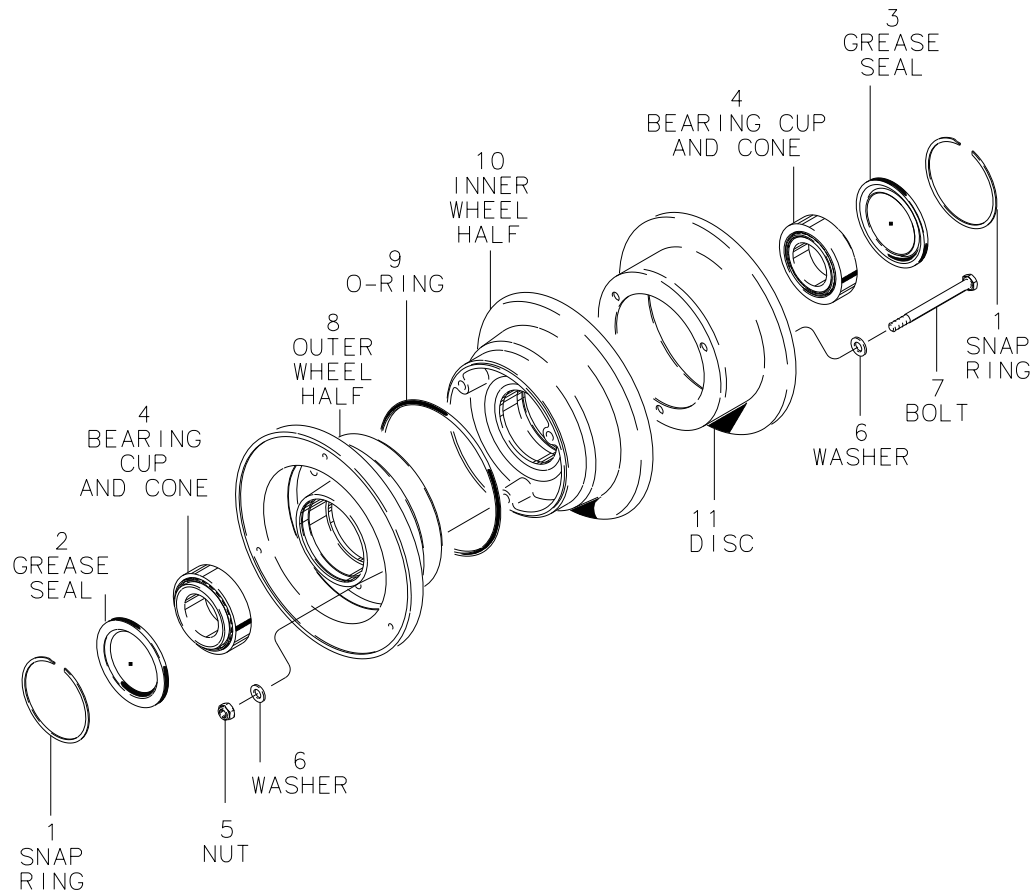

Figure 4 - Typical Main Wheel Assembly
Wheels are made from either aluminum castings, magnesium castings, or aluminum forgings. The wheel is of the divided type, incorporating inner wheel half (10) and outer wheel half (8), Ref. Figure 4, which are fastened together with tie bolts (7), washers (6), and nuts (5). The brake disc (11) is attached to the wheel by the tie bolts. In a few designs, the brake disc bolts are threaded directly into inserts pressed into the back of the inboard wheel half. Wheels fall into two categories, tubeless and tube type. An o-ring (9) fitted between the two wheel halves provides the air seal for wheels designed to operate with tubeless tires. The wheel rotates on two tapered roller bearings (4) which seat in bearing cups in the hubs. Grease seals (2) and (3) provide protection and lubricant retention for the bearings. All new product shipped will have the bearings packed with the appropriate grease (refer to Section 300 Off-Aircraft Maintenance, paragraph 3.A. Bearing Grease). Hubcaps, when used, are secured to the outboard wheel half by a snap ring (1) or three attachment screws. Full wheel covers are fastened by three attachment screws.